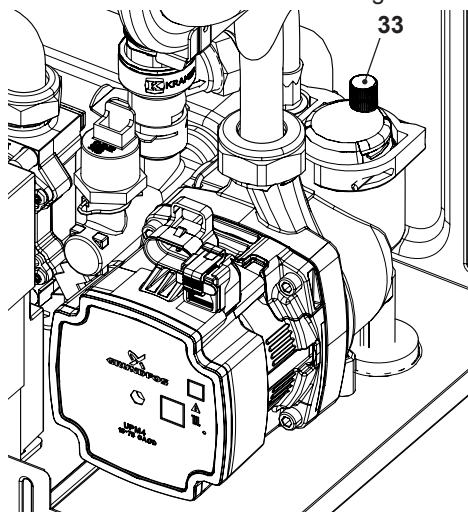

Fig. 10.12
- To make draining easier, lift the plug 33 of the automatic relief valve in Fig. 10.12.